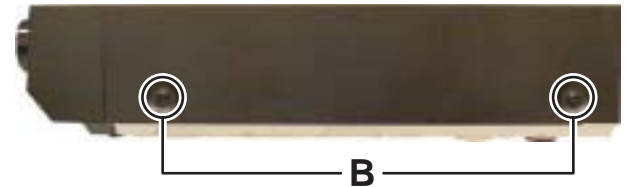

Fig.2
- (2) Remove the four screws **B** attaching the both side of the Metal cover. (See Fig.2)
3.2.2 Disc tray (See Fig.2)